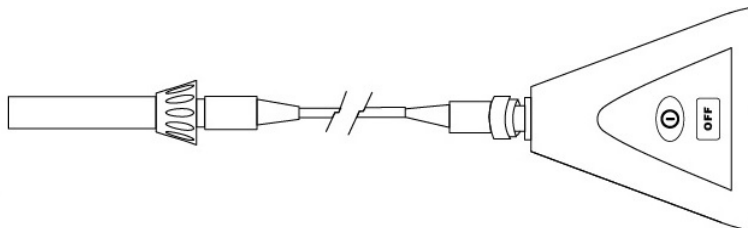

Fig 6
3. Connect the extension cable to the microphone and main body. (Refer to Fig 6).